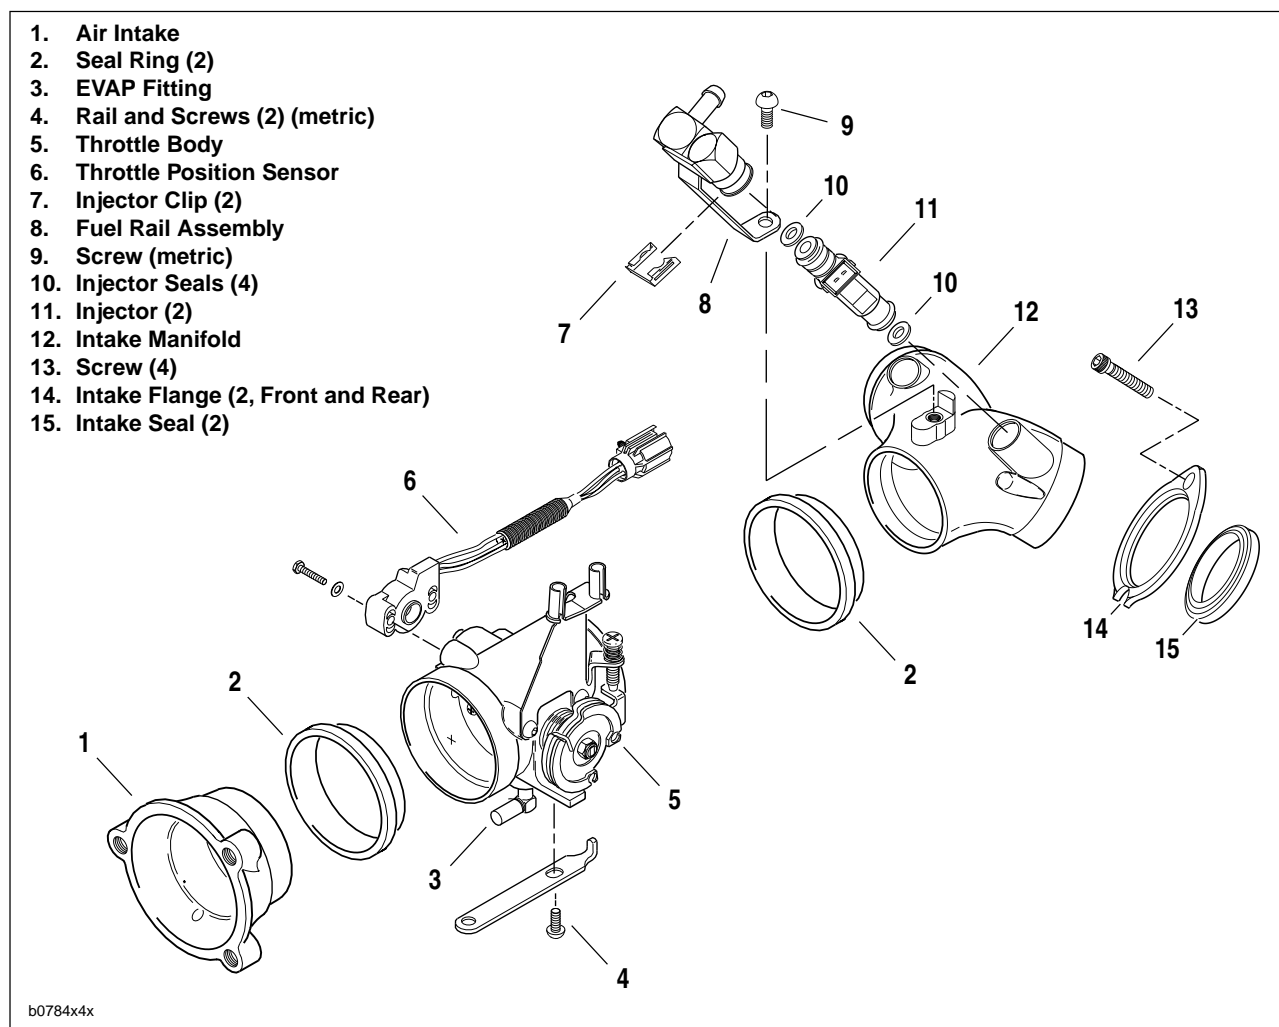
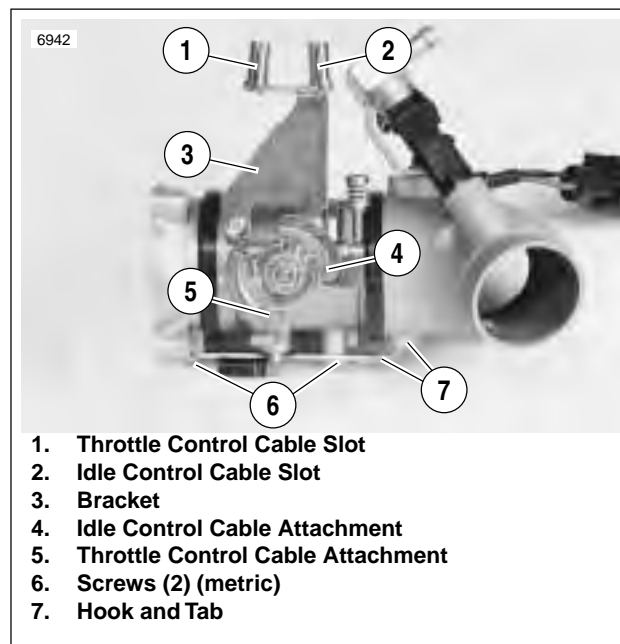

Figure 4-100. Throttle Body and Intake Manifold
Figure 4-101. Throttle Cable Bracket (Typical)
See Figure 4-100. The throttle body and intake manifold consist of the following components:
3. See Figure 4-100. On California models, pull EVAP hose from fitting (3).
- b. See Figure 4-101. Increase throttle cable freeplay. Through the slots (1, 2) in the side of the bracket (3), remove both throttle cables.
6. If only removing throttle body, remove two screws (6) (metric). Detach hook on rail from tab on intake manifold (7) and slide throttle body out.
7. See Figure 4-100. Remove assembly from motorcycle.
- a. On primary cover side, loosen but do not remove the two front and rear intake flange screws (13). For best results use a 1/4 inch ball Allen bit with an end driver at least 4 inches long.
8. Remove intake flanges (14) from manifold. Remove and discard seals (15).